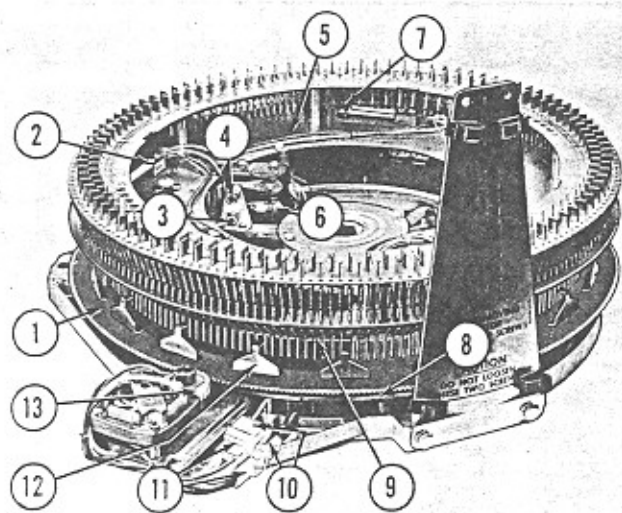
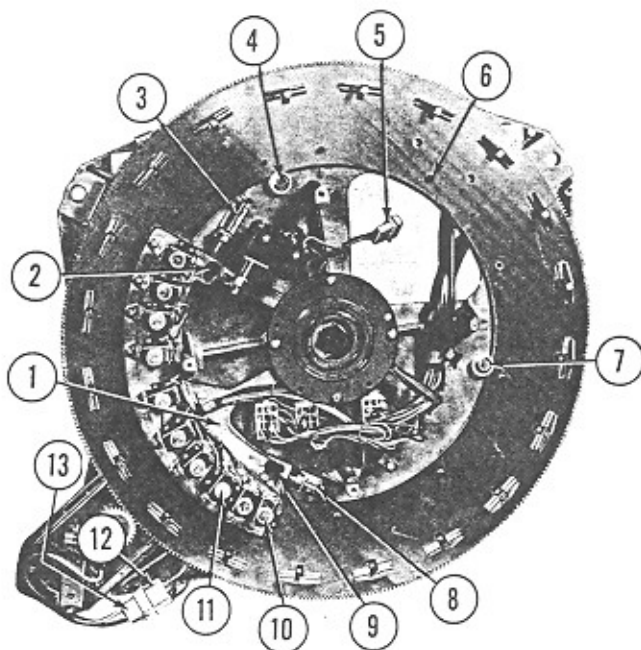

Fig. 26. ELECTRIC SELECTOR ADJUSTMENTS
Fig. 27. ELECTRIC SELECTOR ADJUSTMENTS
a. The forward mechanical stop adjustment for the number quadrant (Item 1, Fig. 27) may be accomplished as follows:
Depress number solenoid No. 0 (Item 11, Fig. 27) and turn the rotating plate and rocker assembly (Item 1, Fig. 26) in a clockwise direction by turning the nylon gear (Item 13) of the selector drive motor. One of the stop pins (Item 6, Fig. 27) will engage the depressed plunger of stop solenoid No. 0 and start moving the number quadrant assembly (Item 1, Fig. 27). Continue the rotation until the number quadrant
stops against the forward stop screw (Item 3, Fig. 27). At this point the tips of rocker arms (Item 12, Fig. 26) should be aligned with twenty corresponding latch pins designated as No. "O" eg. "AO", "BO", "CO" etc. Also the rocker actuating bars (Item 8, Fig. 26) must be aligned with their respective letter solenoid plungers. Repeat the above procedure using number stop solenoid No. 1 (Item 10, Fig. 27) to provide the forward stop position.
7. Nylon Spacer, Wobble Ring (4)	68650
b. The start switch (Item 6, Fig. 26) should be set to actuate by the forward rotation of the number quadrant. Set the adjusting screw (Item 3, Fig. 26) to produce switch action at the forward stop position established above. Over-travel of $1/32$ " to $3/64$ " should be added to the adjustment screw (Item 3, Fig. 26).
c. The rear mechanical stop (Item 8, Fig. 27) should be set to provide $1/16$ " over-travel of the number quadrant following release action of the start switch. The number quadrant is retracted by its coil spring (Item 9, Fig. 27).
d. The reverse switch adjusting screw (Item 4, Fig. 26) will be adjusted with the number quadrant retracted against its rear stop adjustment as estab-